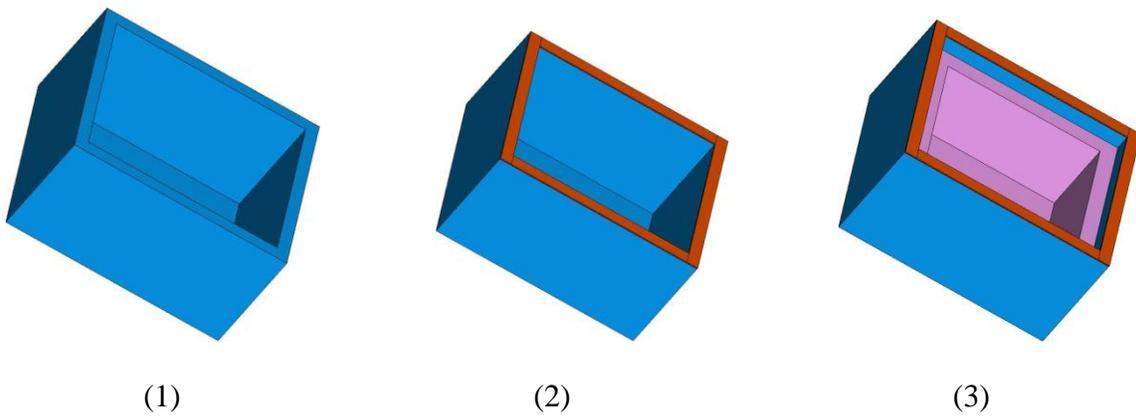

Figure 2, The views of the main detector enclosure
- Figure 2 with three layouts shows the process of lower part of enclosure.